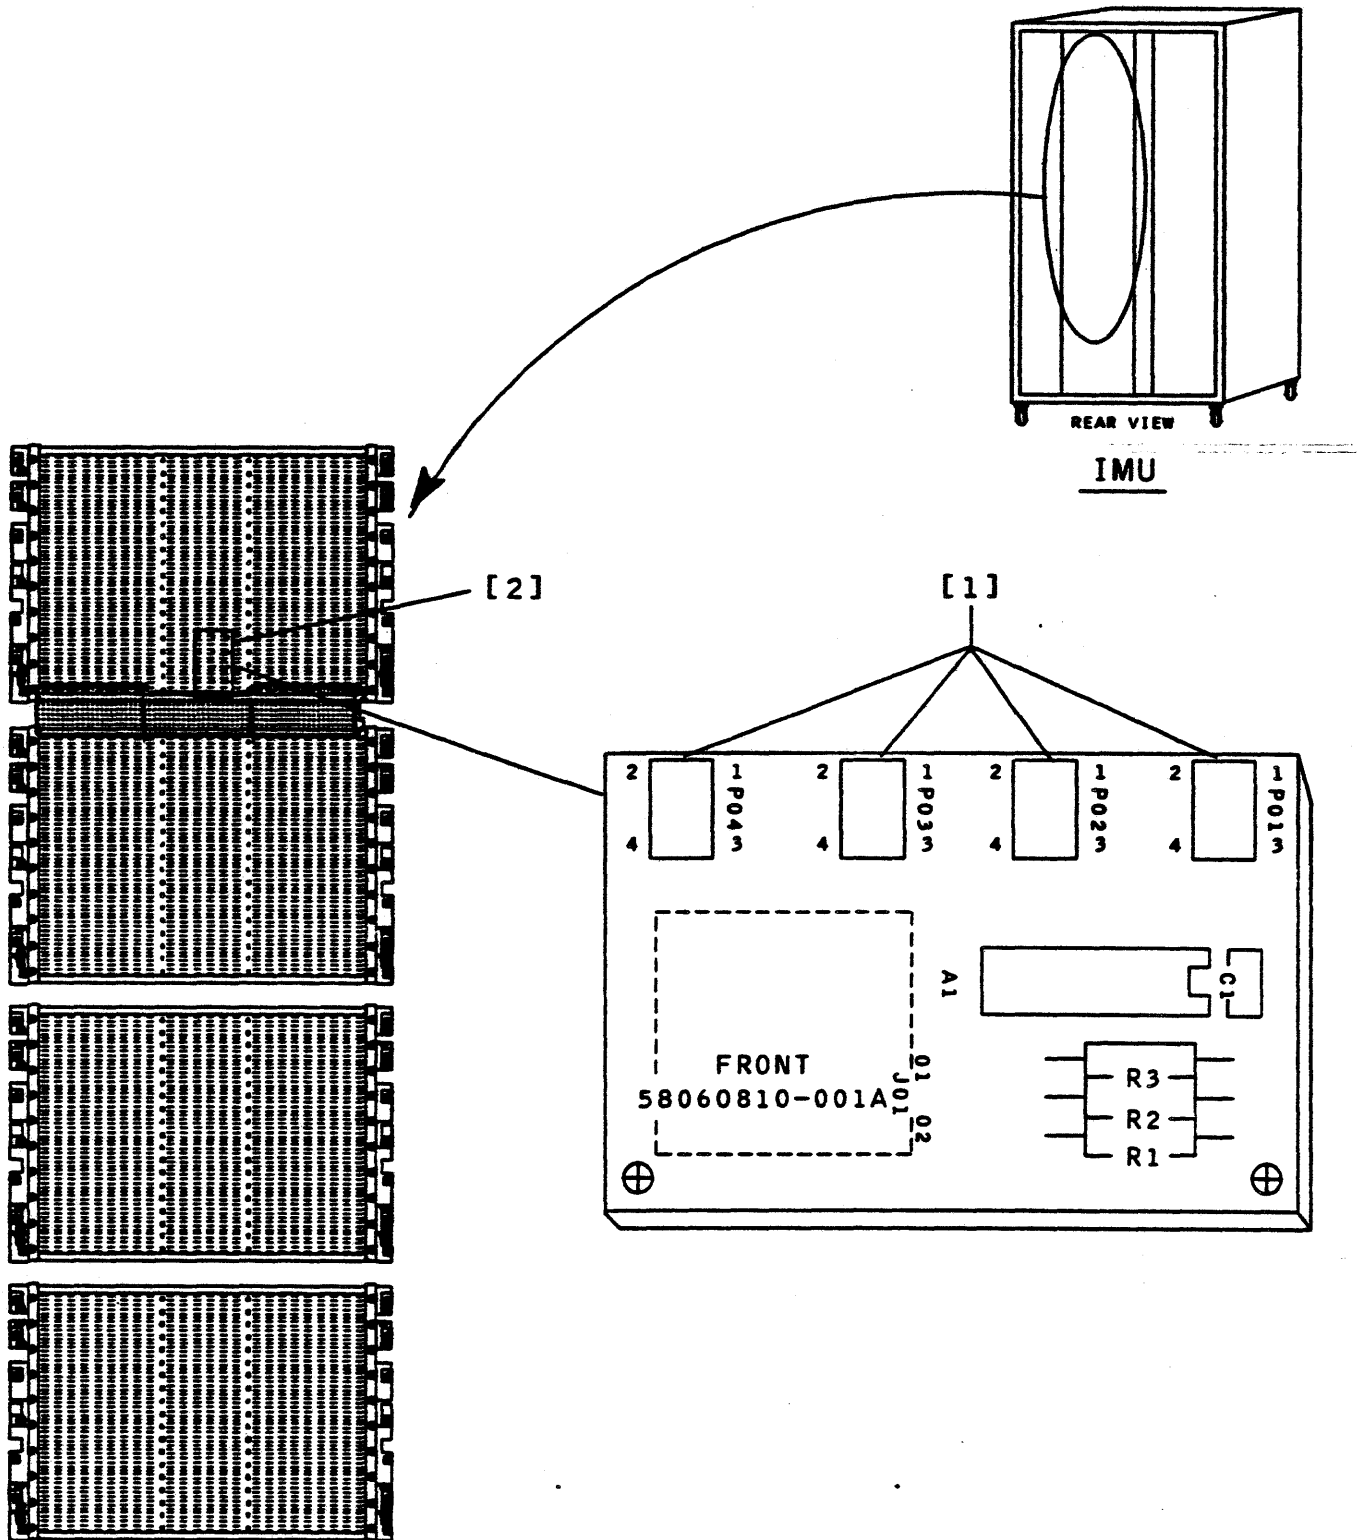

FIGURE 2.22-1. CLOCK DISTRIBUTION PWA REMOVAL/INSTALLATION
5. Using hands, disconnect plug from faulty logic board (Figure 2.22-1, [1]).
6. Using hands, remove faulty board from backpanel assembly (Figure 2.22-1, [2]).